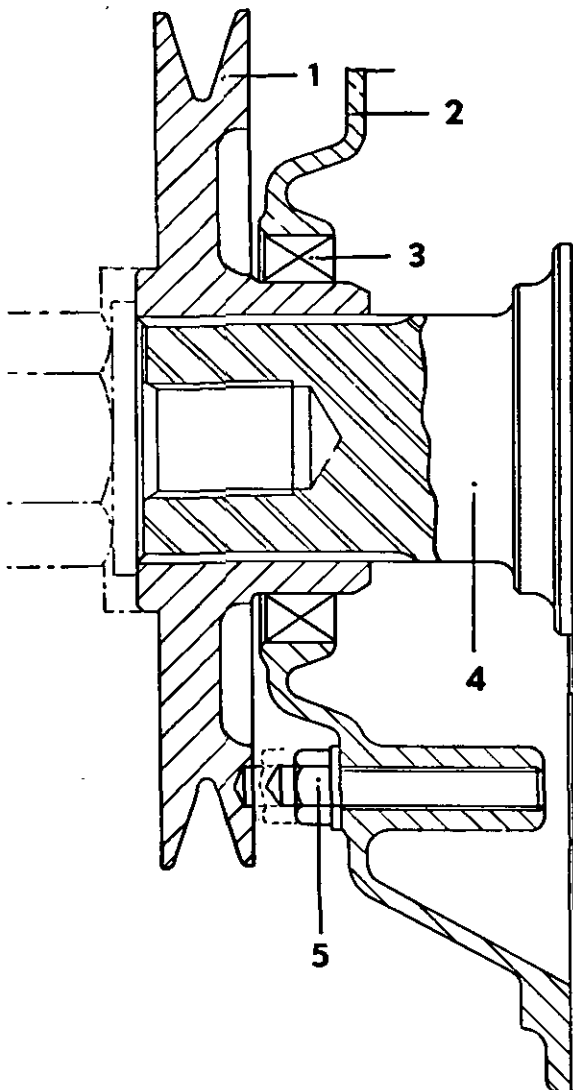

Fig. J.21
3. Check that Nos. 1 and 6 pistons are at T.D.C. either on the flywheel or by unscrewing the timing pin, in the lower half of the timing case, until it locates in the hole in the rear of the crankshaft pulley (see Figs. J.21 and J.22). On current engines, a pointer is provided in place of the timing pin which when aligned with a mark on the periphery of the crankshaft pulley, indicates T.D.C. The valve timing tolerance is plus or minus  $2\frac{1}{2}^{\circ}$ .